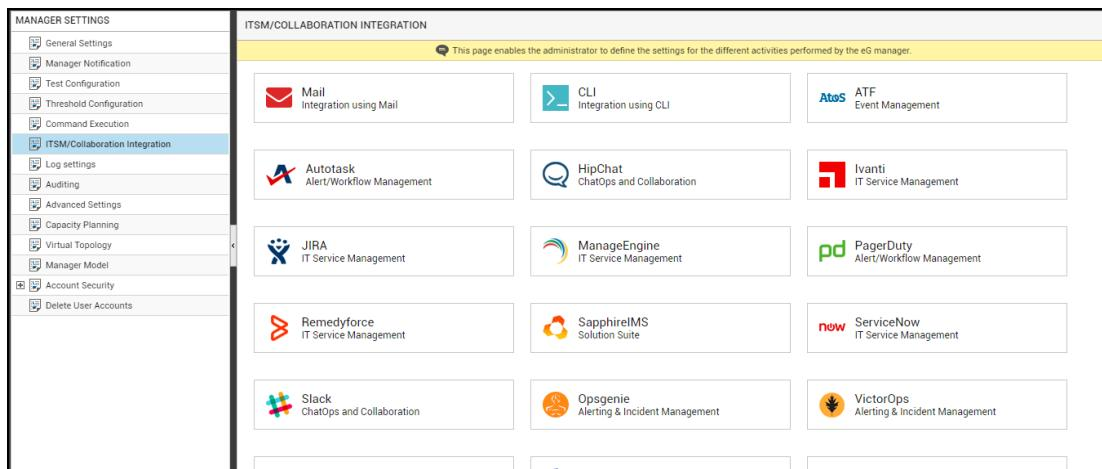
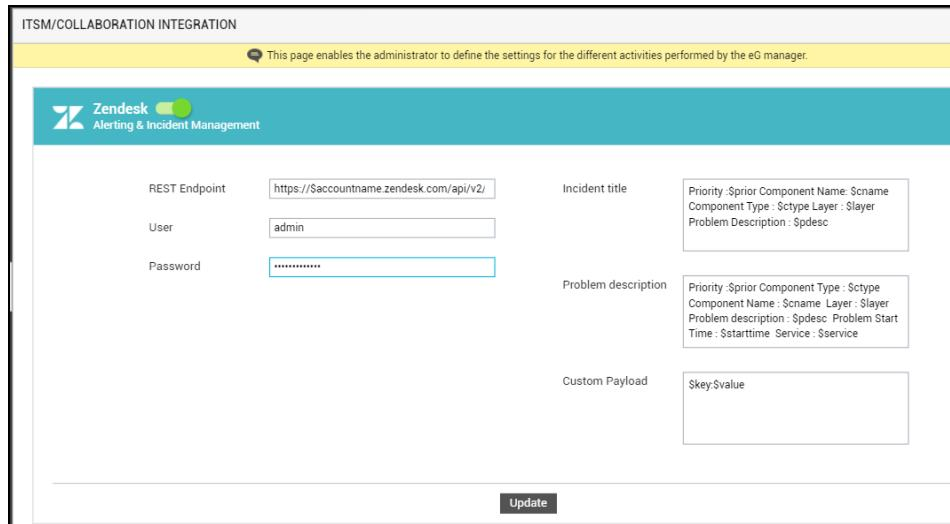

Figure 5.33: Viewing the ITSM/Collaboration tool options
Figure 5.34: Configuring integration with Zendesk
3. Figure 5.33 will then appear. From the **MANAGER SETTINGS** tree in the left panel of Figure 5.33, select the **ITSM/Collaboration Integration** node. The third-party ITSM/Collaboration tools that eG Enterprise can integrate with will be listed in the right panel.
4. Now, click on the **Zendesk** option in the right panel (see Figure 5.33). A **Zendesk** section will now appear in the right panel (see Figure 5.34).
5. To enable integration with Zendesk, first slide the **Zendesk** slider in Figure 5.34 to the right.
6. Then, specify the following in Figure 5.34:
7. Finally, click the **Update** button in Figure 5.34 to save the changes.